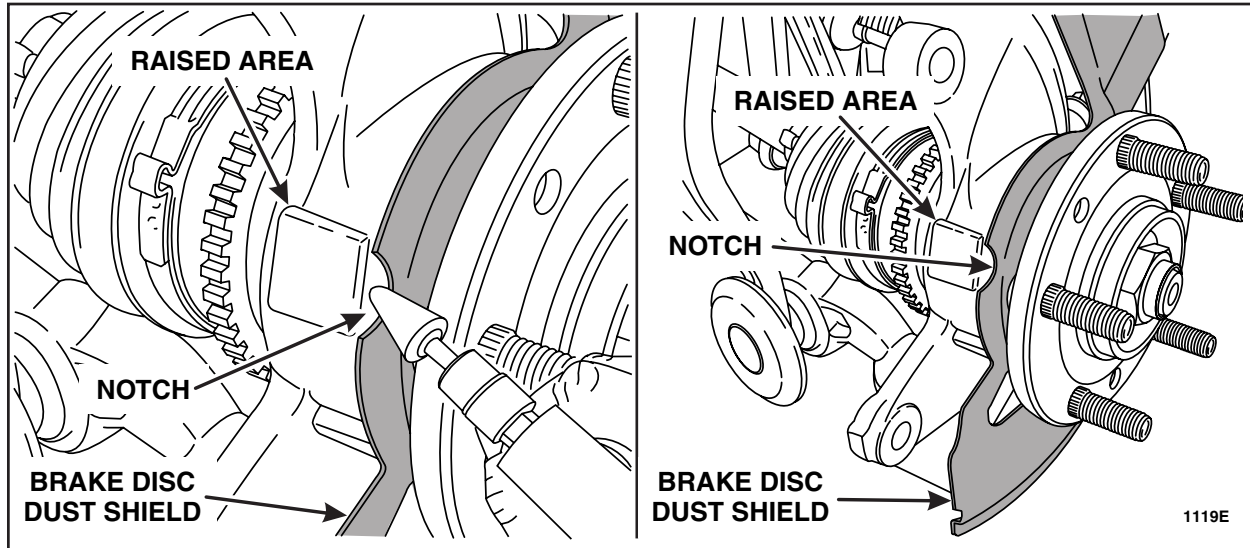

FIGURE 1
2. Use a 3/4" x 1-1/16" pointed grinding stone to grind a notch into the brake disc dust shield flush to the raised area of the hub to allow for wheel stud removal. See Figure 1.